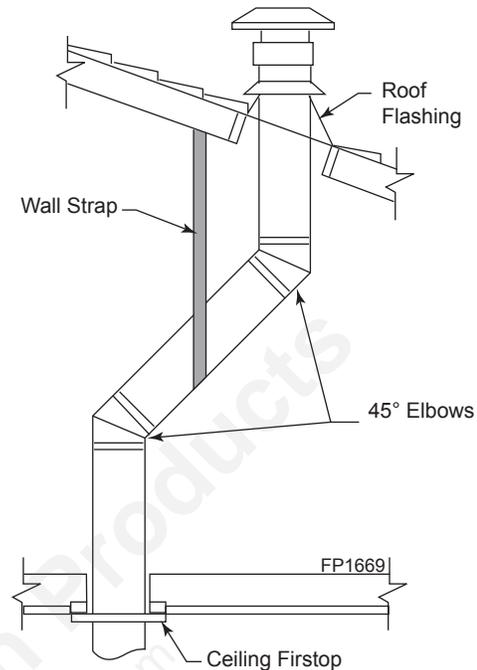

Figure 37 - Offset with Wall Strap and 45° Elbows
NOTE: If an offset is needed to avoid obstructions, you must support the vent pipe every three (3) feet. Use wall straps for this purpose. Refer to *Page 26, Figure 37*. Whenever possible, use 45° elbows instead of 90° elbows. The 45° elbow offers less restriction to the flow of the flue gases and intake air.